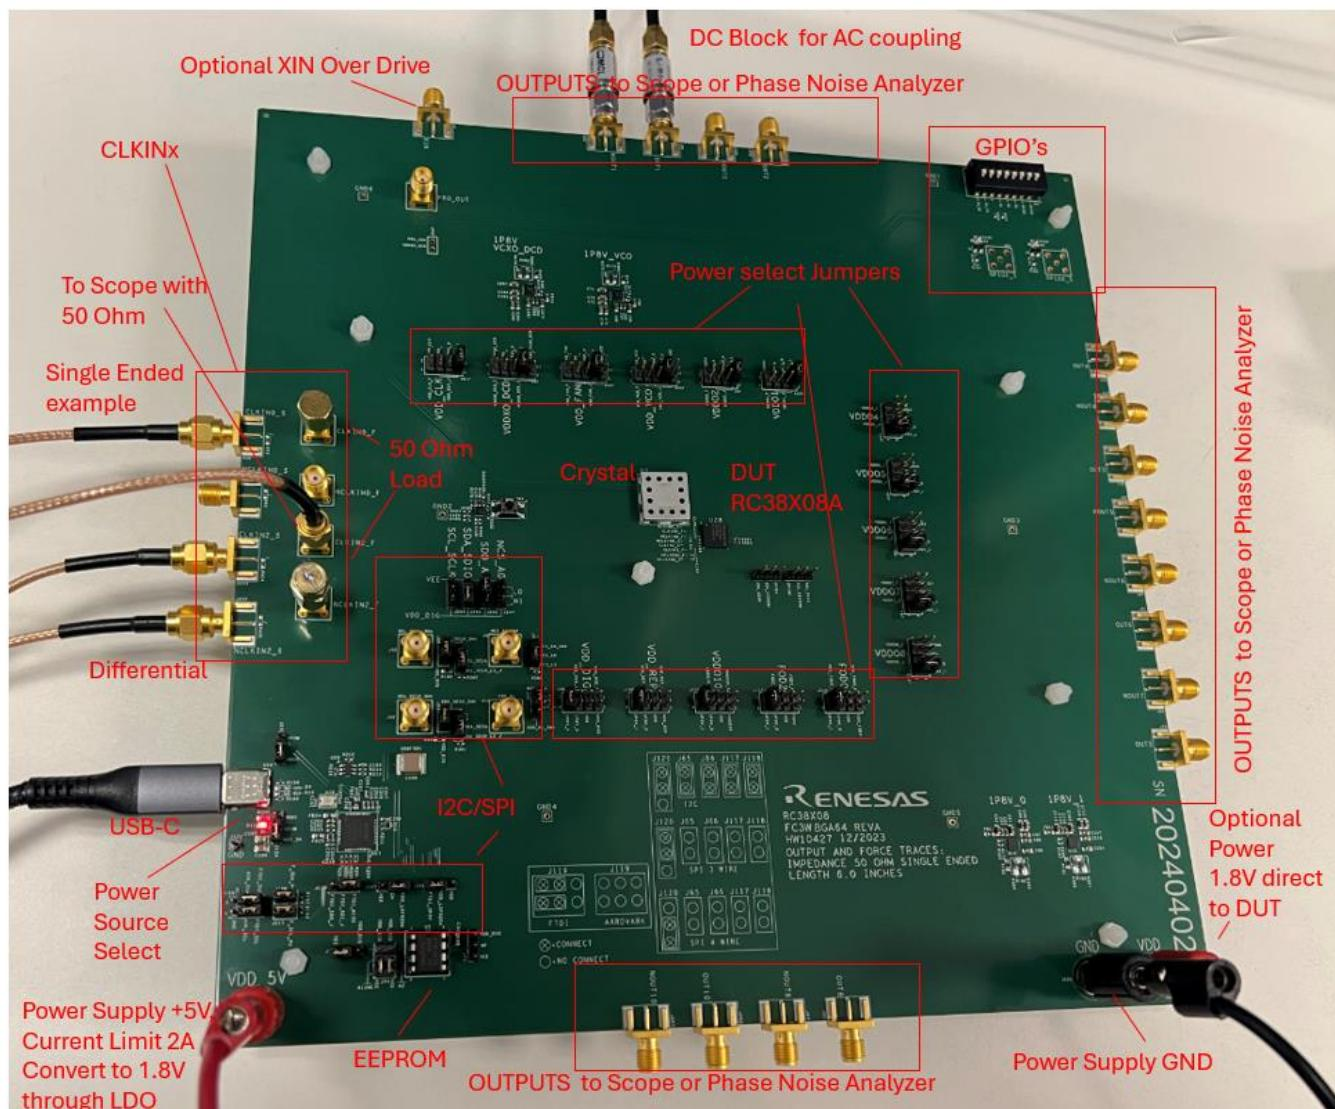

Figure 2. Evaluation Board – General Setup
The following sections describe the crystal, input clock, serial, GPIO, and output and power functions used for setting up device testing. The jumper setup example is shown in Figure 2.
- **Power Supply** – Use 5V_VDD with on-board LDO to generate 1.8V power rail. See Figure 2 for power select jumper settings (the J90 V_{DD} = 1.8V setting is not used this example).
- **CLKx Inputs** – The CLKx inputs are AC-coupled by default and can accept either differential input or single-ended input. The **CLKx** input has no on-board 50Ω termination. If the signal source, for example, lab equipment requires 50Ω to GND termination at the receiver, the Sense connectors are provided for lab equipment monitoring (e.g., scope with 50Ω input for monitoring the CLK input signal). If the sense connector is not used, then a dummy 50Ω load is required (see Figure 2) at the sense. The CLK0 input shows a 1.8V LVCMS single-ended input. A 50Ohm dummy load is provided at the Sense. The CLK2 input shows a differential input. Once the Sense through Coax cable is connected to a scope with 50Ohm input channel, the other Sense can provide a 50-Ohm dummy loaded.